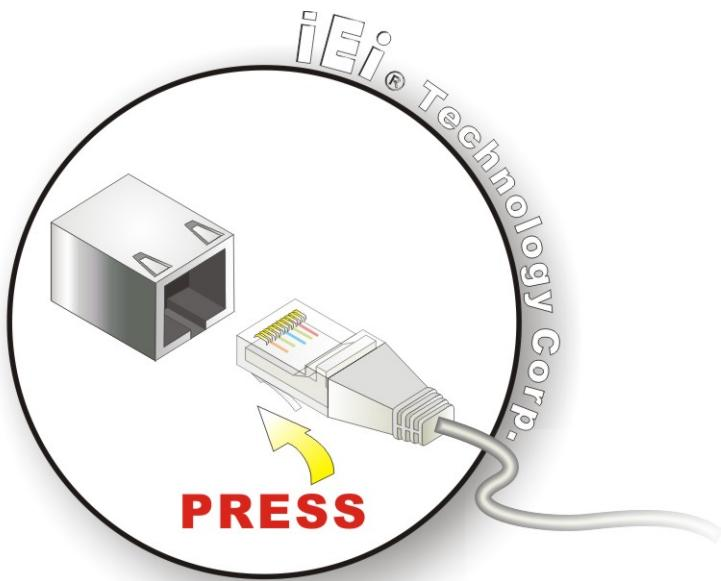

Figure 4-19: LAN Connection
Step 2: Align the connectors. Align the RJ-45 connector on the LAN cable with one of the RJ-45 connectors on the PICOE-HM650. See **Figure 4-19**.